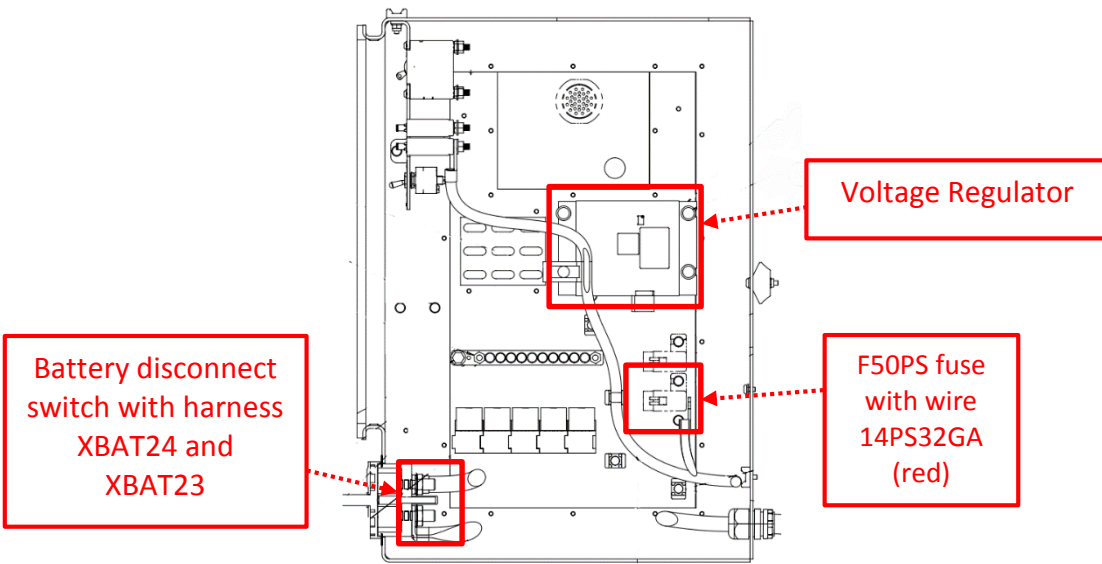

Figure 2: Fuse box left side interior diagram
4. Seen in Figure 2 below is the left side interior view of the fuse box. Locate the harness “XBAT24A” and the wire labelled “14PS32GA” which connects from the fuse “F50PS”.